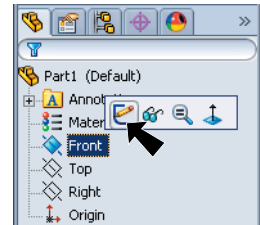

Fig. 1
Step 2. Click **Front**  (plane) in the Feature Manager and click **Sketch**  from the Content toolbar, **Fig. 1**.
Step 3. Click **Centerline**  (S) in the **Line flyout**  on the Sketch toolbar.